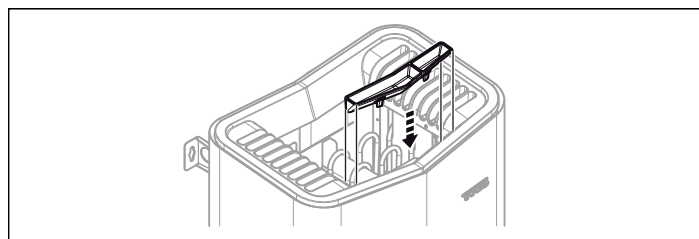

Figure 9: Fitting the fragrance holder/air humidifier
- 7. Attach the herb bowl/air humidifier (see Figure 9, Page 7).